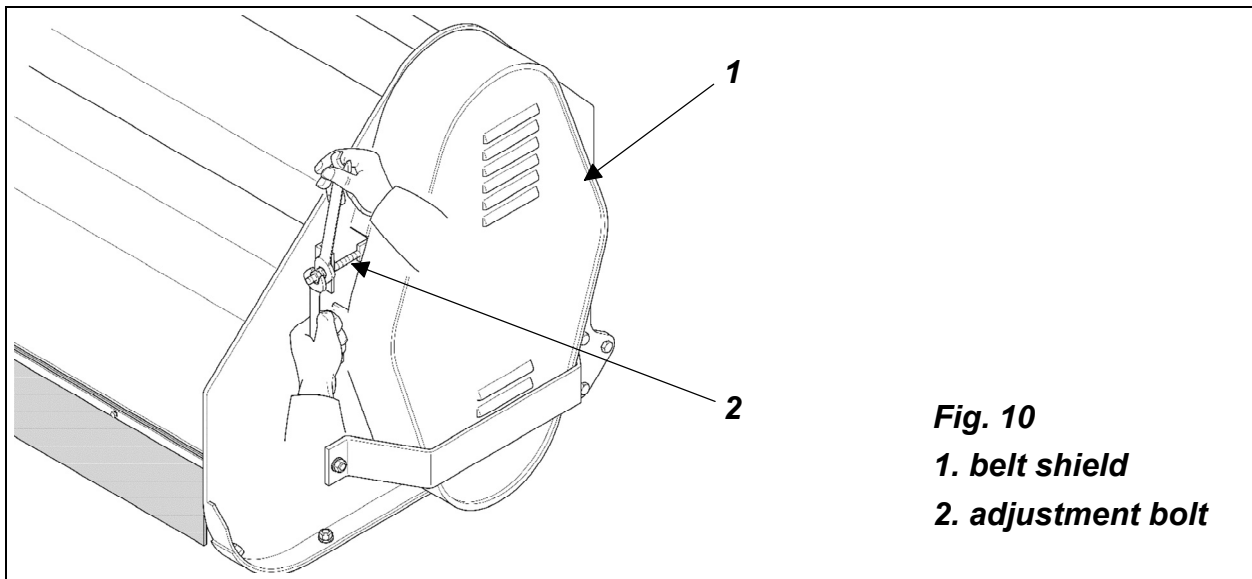

Fig. 10
To adjust the tension do the following (**see fig. 10**):
2. Remove the bolt adjustment rod (**see #2, fig. 10**).
1. Disengage the belt tensioner pulley by releasing the adjustment bolt (see #2, fig. 10)¹⁵.